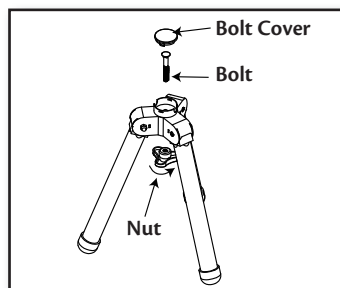

Figure 5
2. Remove the bolt cover from the top of tripod adapter, then loosen the bolt and the nut by turning the nut counter-clockwise. (Figure 5)